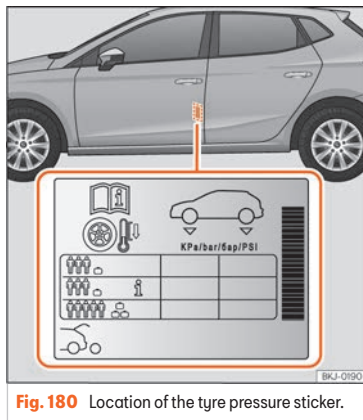

Fig. 180 Location of the tyre pressure sticker.
- Adjust tyre pressure to the load being carried by the vehicle »»» Fig. 180.
The values of the tyre pressure are shown on the sticker label located on the read frame of the front left door >>> Fig. 180.
The tyre pressure must be adjusted according to the load the vehicle is carrying. If the vehicle is going to be fully loaded, increase the tyre pressure to the maximum load value shown on the sticker label >>> Fig. 180.
In the case of a minimised temporary spare wheel (125/70 R16 or 125/70 R18) inflate to a pressure of 4,2 bar as indicated on the tyre pressure label >>> Fig. 180.
Depending on the vehicle, tyre pressure can be adjusted to medium load to improve driving comfort [tyre pressure **i** >>> Fig. 180]. When driving with comfort tyre pressure fuel consumption may increase slightly.
- **The driver is responsible for ensuring that all of the vehicle tyres are correctly inflated to the right pressure. The recommended tyre pressure is indicated on the label >>> Fig. 180.**
- **Tyre pressure should be that indicated on the label when the tyres are cold at all times >>> Fig. 180.**